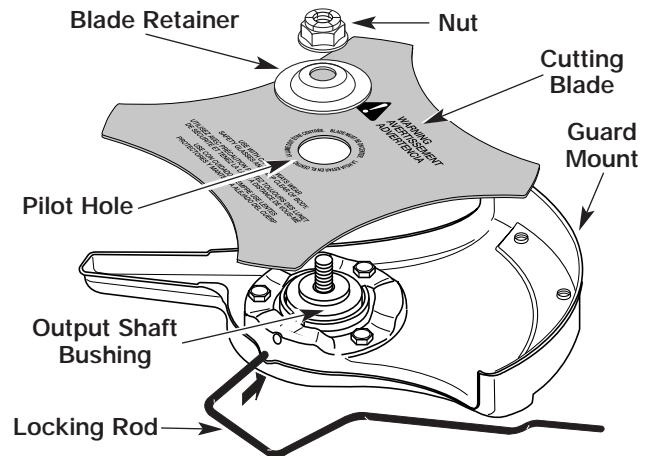

FIGURE 11
4. Place the cutting blade on the output shaft bushing, Figure 11.